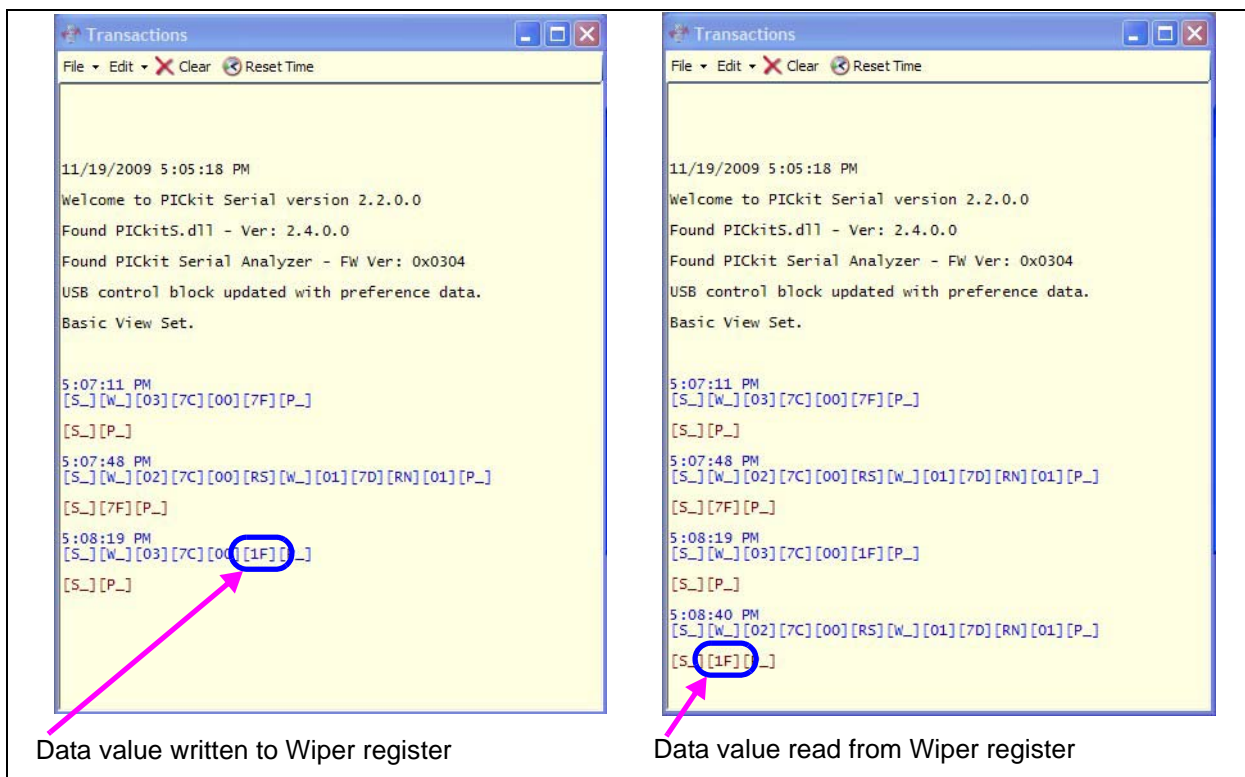

FIGURE 2-16: *MCP40D18 Transaction Windows 3 and 4.*
15. Click on the “Execute Script” button. This executes the script shown in the script detail column, which will update the wiper value to 1Fh (from 7Fh). The Wiper voltage will now be $\sim 1/4 * V_{DD}$ ($\sim 1.25V$). The Transaction window (see Figure 2-16) will be updated to indicate the execution of the script.
17. Click on the “Execute Script” button. This executes the script shown in the script detail column. The Transaction window (see Figure 2-16) will be updated to indicate the execution of the script. The Data read is shown in the last line.